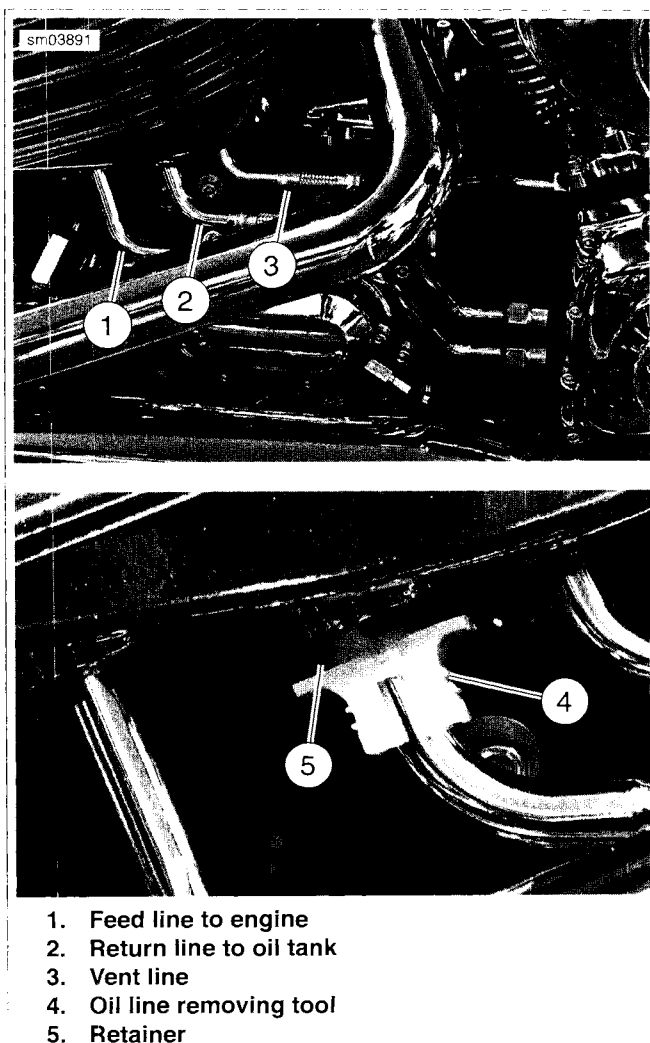
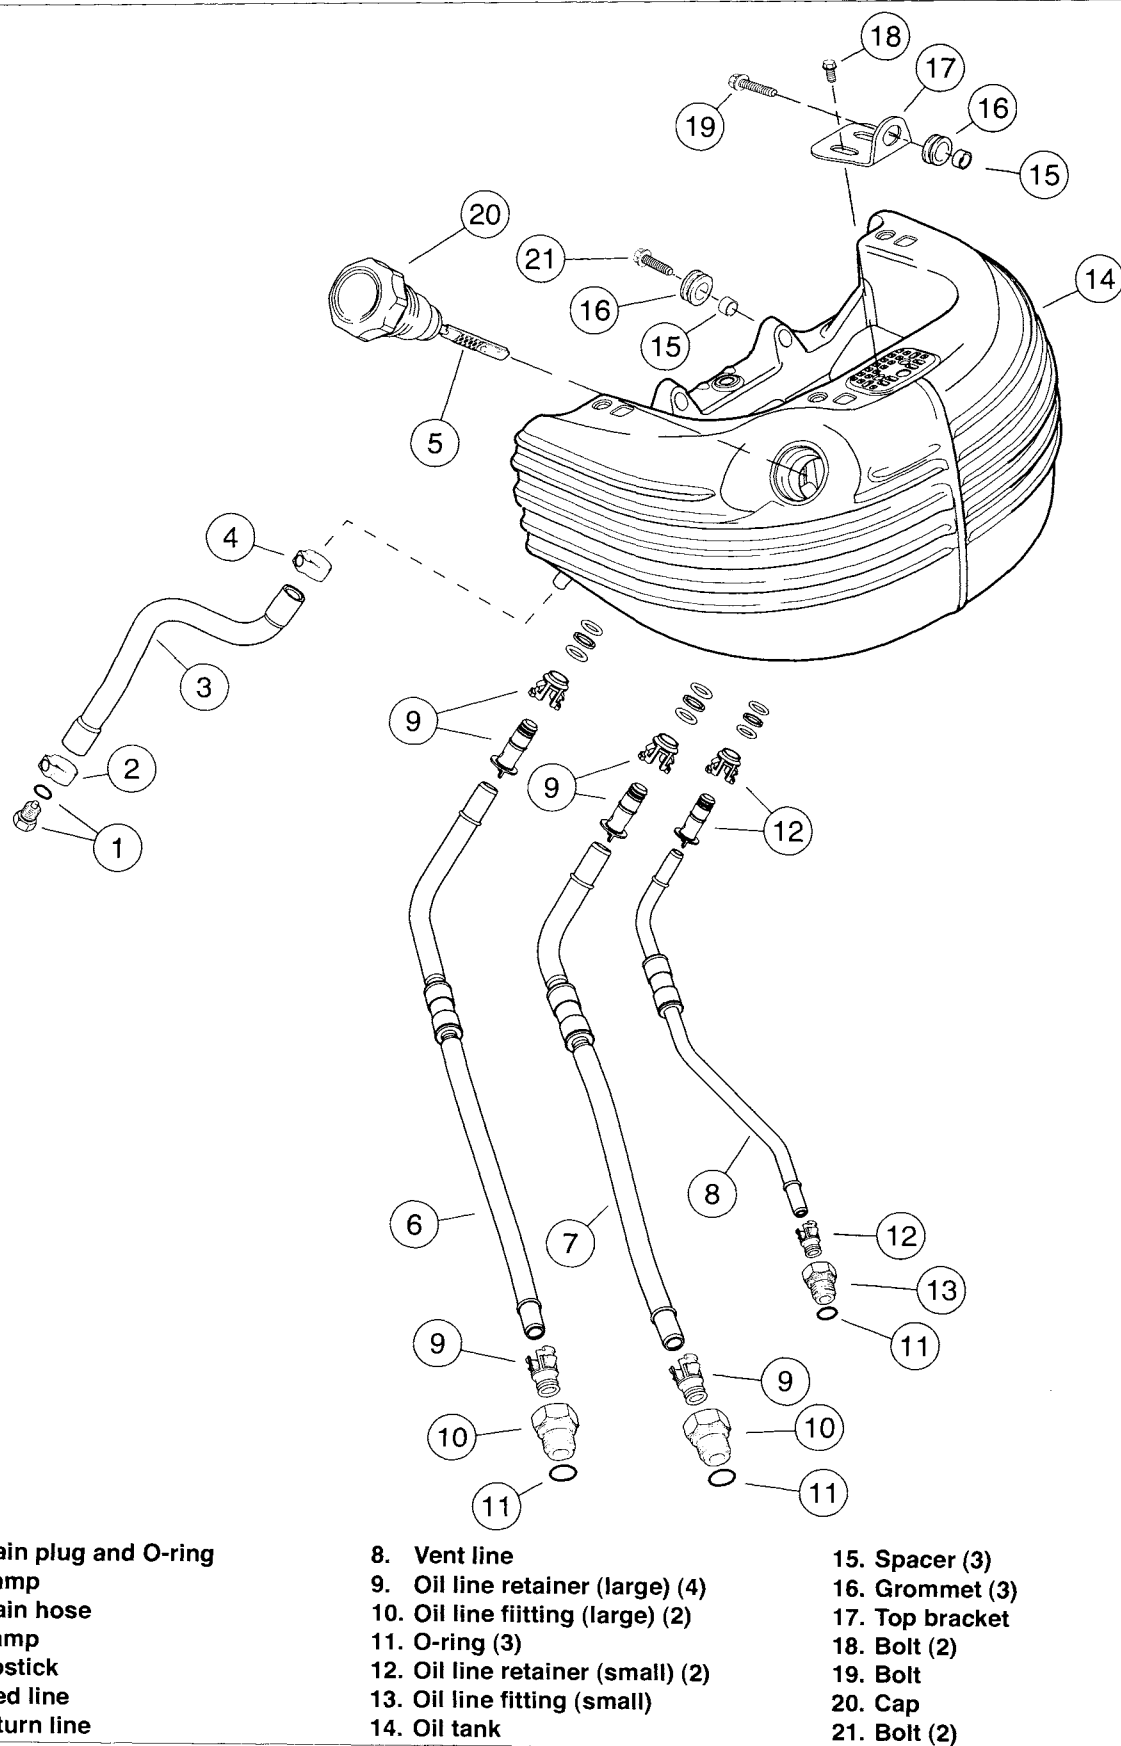

Figure 3-178. Oil Lines: FXCWC
Figure 3-179. Oil Tank
10. See Figure 3-179. Remove two bolts (21) securing rear of oil tank.
11. Remove two bolts with washers (18) on top front of oil tank.
12. Cut lower drain hose clamp (2) from frame.
13. See Figure 3-178. Detach feed line to engine (1), return line to oil tank (2), and vent line (3) using OIL LINE REMOVING TOOL (Part No. HD-44455).
- a. Insert oil line removing tool (4) inside retainer (5).
1. See Figure 3-179. Slide oil tank into position within frame. Install two bolts (18) through top bracket to hold tank in place.
2. Install two bolts (21) from back side of tank.
3. Attach drain hose and install **new** clamp (2) to frame. Crimp clamp using HOSE CLAMP PLIERS (Part No. HD-97087-65B).
6. See Figure 3-178. Connect vent line, return line to oil tank, and feed line to engine. No tools are necessary for this step. Insert lines straight into fittings without digging or gouging o-rings. Remove any labels used to identify lines during removal process.